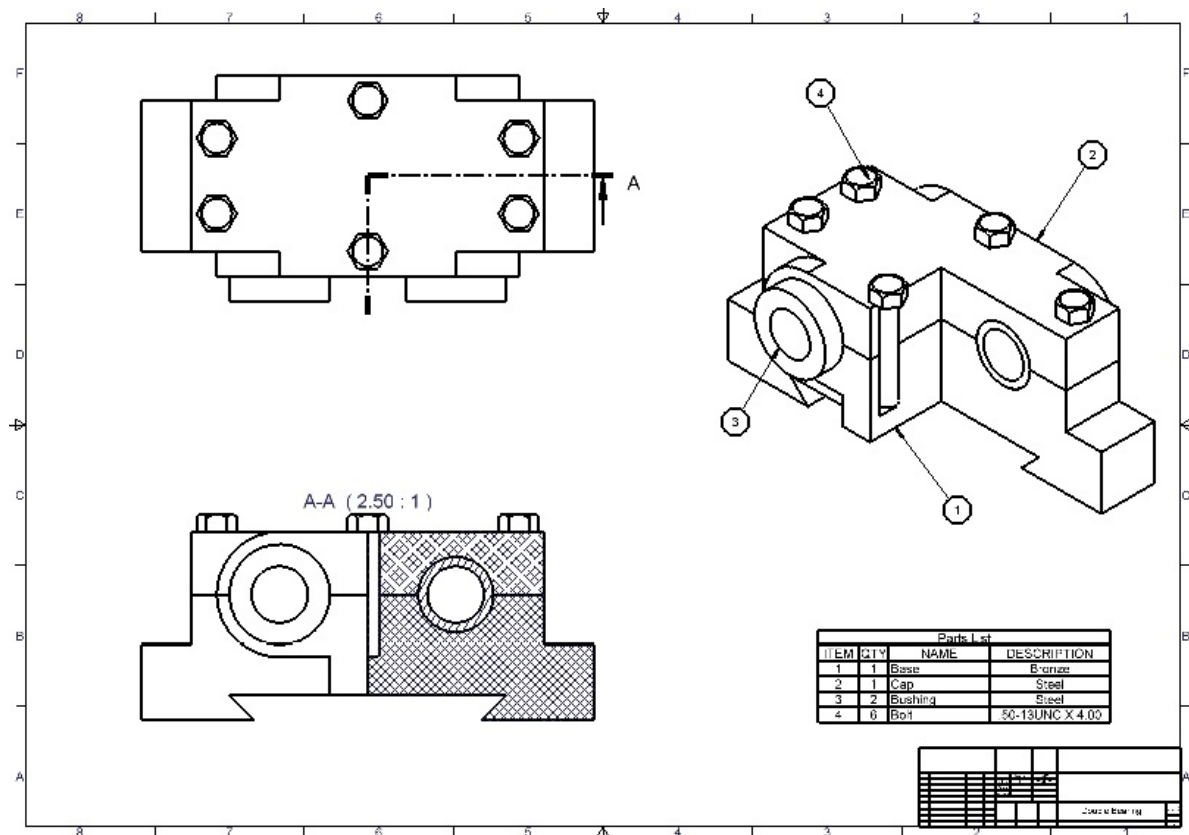

Figure 12-27 Drawing sheet after adding balloons
5. Enter **6** in the **Size (X)** edit box and **2** in the **Height (Y)** edit box in the **Terminator** area. Save the changes and then exit the dialog box.
8. Specify the location of the other end of the balloon above the view, refer to Figure 12-27.
11. Specify the location of the other end of the balloon on the left of the view, refer to Figure 12-27. Right-click to display the shortcut menu and then choose **Continue** to place the balloon.
12. Similarly, add balloons to the Base and the Cap, refer to Figure 12-27.
13. After placing balloons, right-click to display the shortcut menu. Choose **Cancel [ESC]** from it to exit this tool. The drawing sheet after adding the parts list and balloons is shown in Figure 12-27.